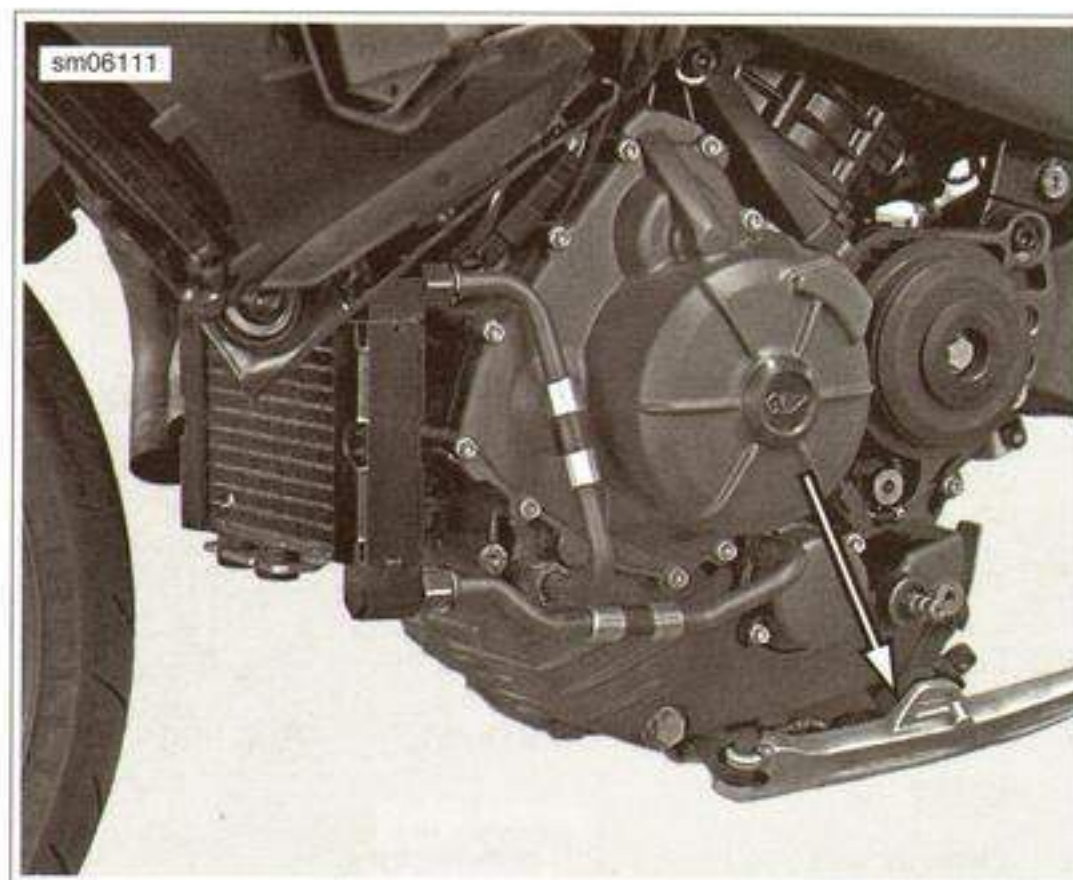

Figure 3-29. Sidestand and Sidestand Stop Bracket
1. See Figure 3-29. Remove the sidestand.